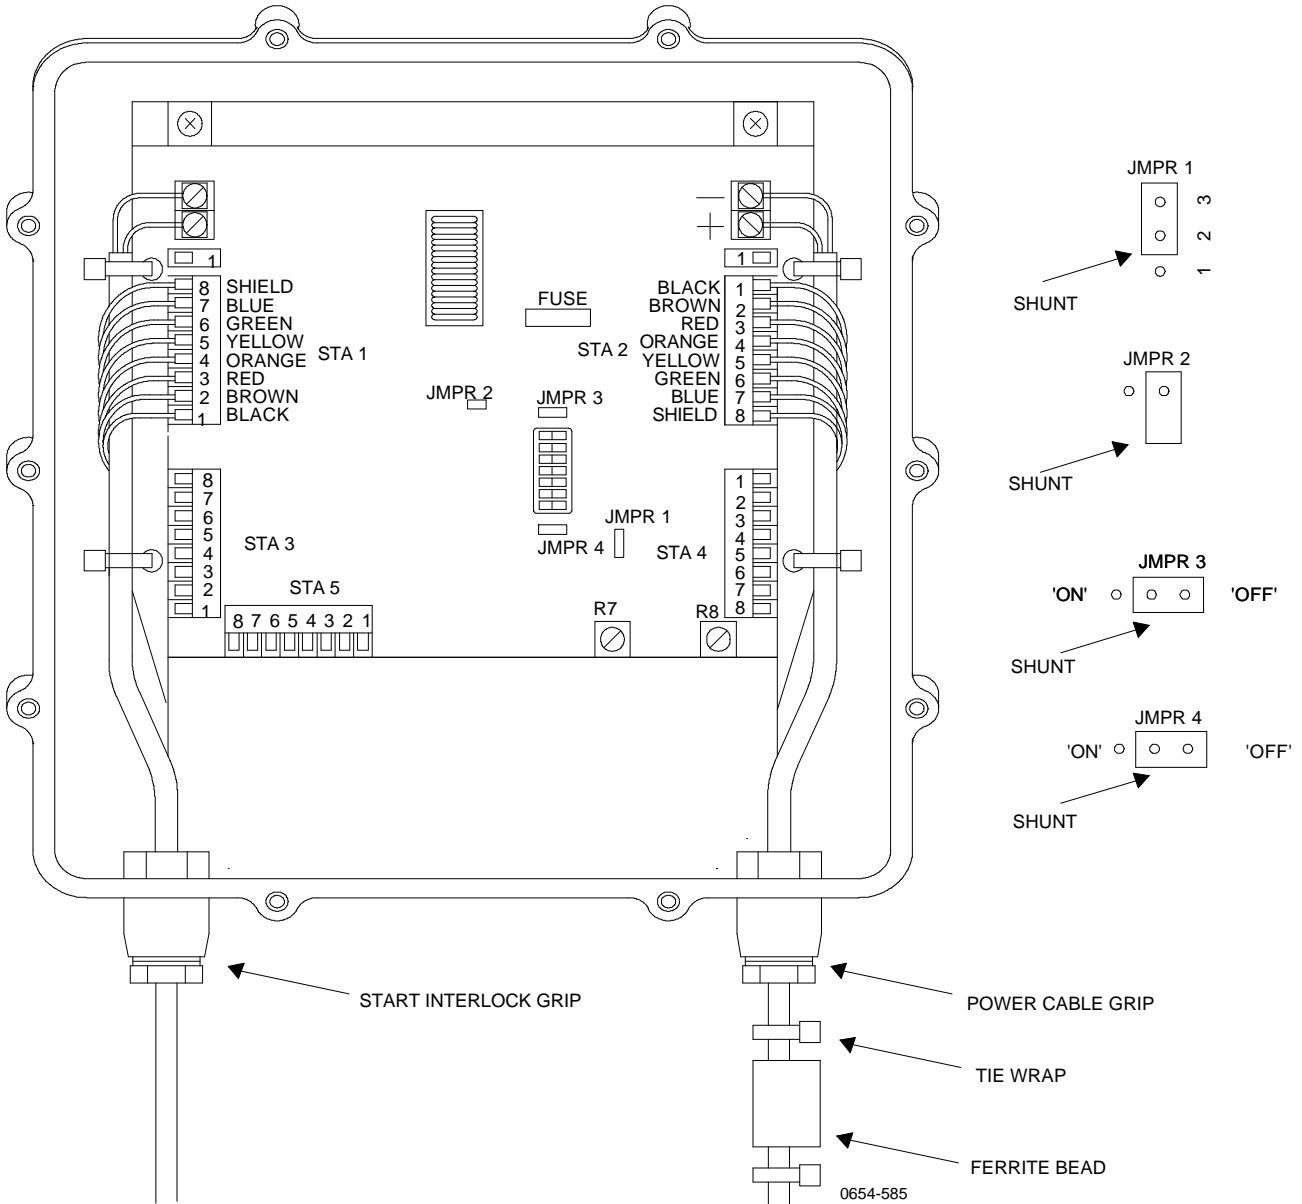
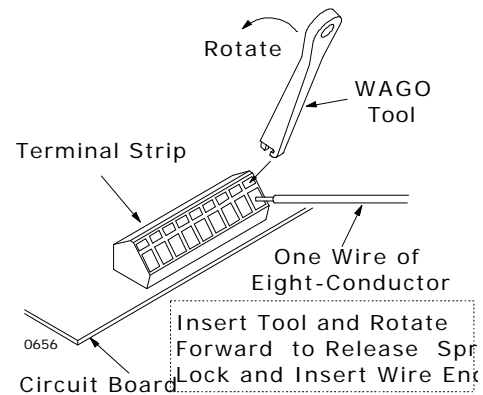

Figure 9 – Actuator Connections
Figure 11 – Terminal Connection
is included with each Actuator. It is taped to the relay on the circuit board. It is used to depress the spring lock for the individual wire connection to the terminal strip. (See Figure 11) The shielding drain wire (bare wire) must be connected to terminal 8 on the terminal strip, and must not come in contact with the frame. Feed through a little slack cable and tighten the cable grip on the eight (8) conductor cable. The other stations eight (8) conductor cables are brought in the same way and are connected to the appropriate terminal. (See Figure 9) Secure the cable to the frame using tie wraps provided.